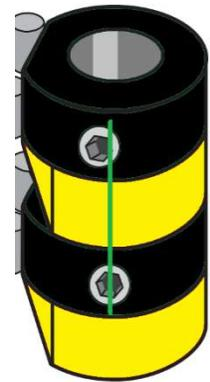

Figure 6: Easy indicator of correct CCW auxiliary cam setting
- vi. To quickly verify the correct CW auxiliary cam setting, compare its set screw location to that of cam 1. The set screw on cam 3 should be approximately one-half the set screw diameter to the right of the set screw on cam 1 (similar to Figure 6).
- ii. Gently tighten (CW) the set screw (only until slight pressure is felt). Ideally, the set screw rides along the camshaft.
- c. To quickly verify the correct CCW auxiliary cam setting, compare its set screw location to that of cam 2. The set screw on cam 4 should be approximately one-half the set screw diameter to the left of the set screw on cam 2 (see Figure 6).